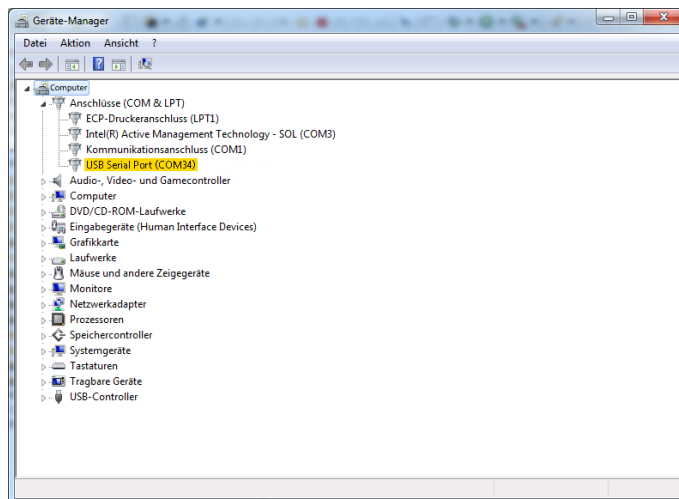

Figure 13: Ascertaining the COM port
- The correct COM port, which has already been ascertained in Device Manager, (Abb.13 Geräte-Manager) can then be selected in the Scan Ports pull-down menu after the